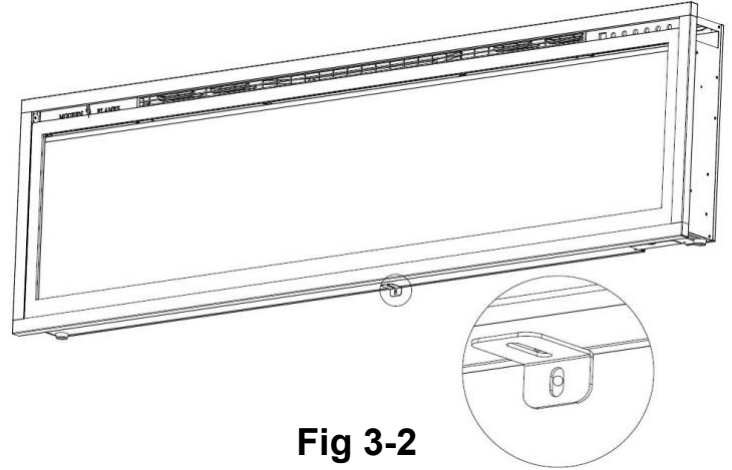

Fig 3-2
B. Using the screw previously removed, attached the L-bracket (O) (supplied) to the bottom of the fireplace box. (Fig 3-2)